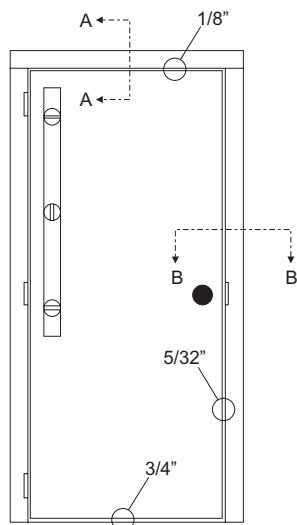

Fig. 4
**E** Install door in frame. Check for 1/8" clearance at head and 5/32" clearance at strike jamb, see Fig. 4